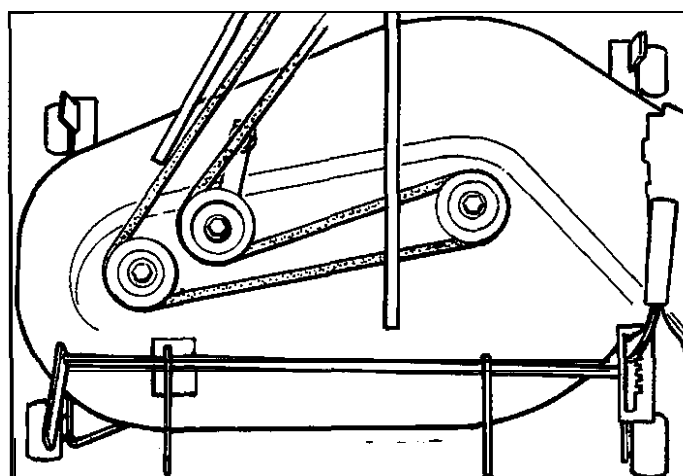

Figure 31. Mower Deck Belt Routing
3. Remove the old belt and install the new belt over the pulleys as shown in figure 31.